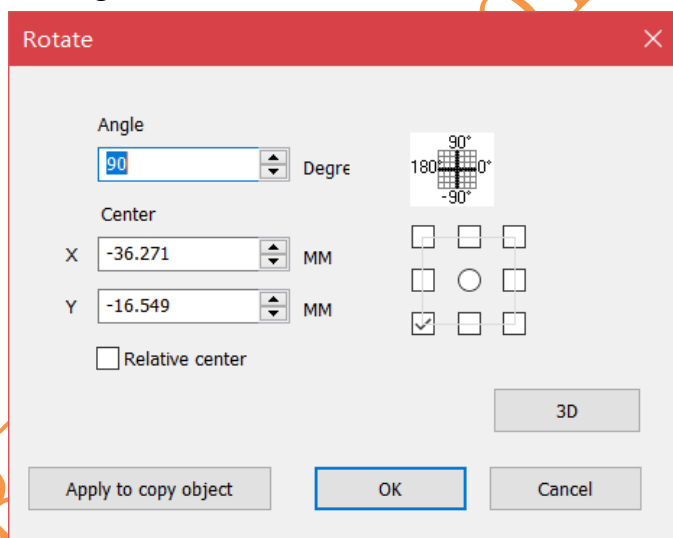
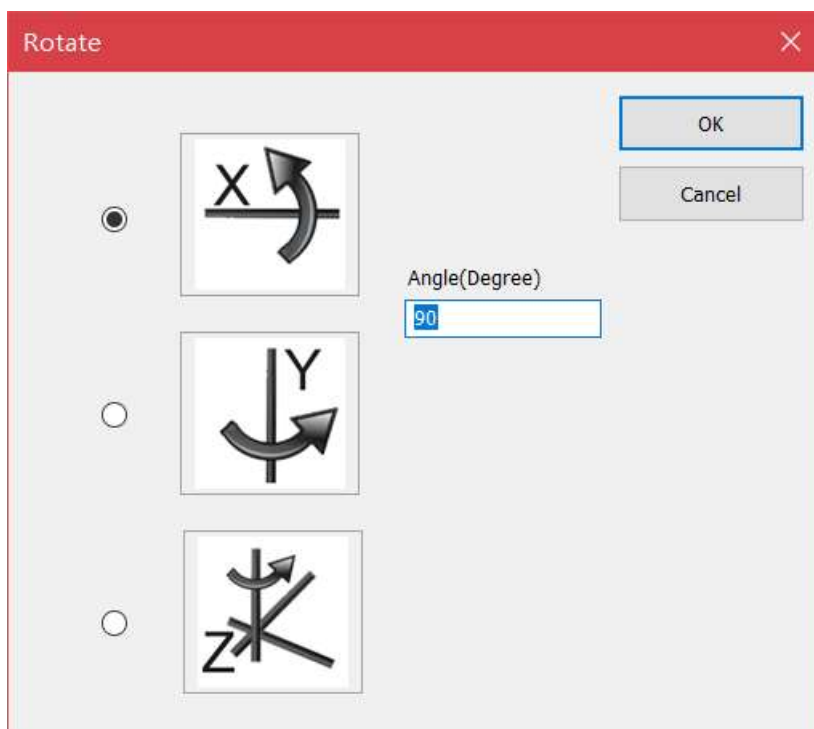

Fig 3-3
Fig 3-4
Rotate (as fig 3-3)
**3D:** Current selected object rotate relative to axis x, y, z, click 3D pop up window in fig 3-3. As follow fig 3-4 show.